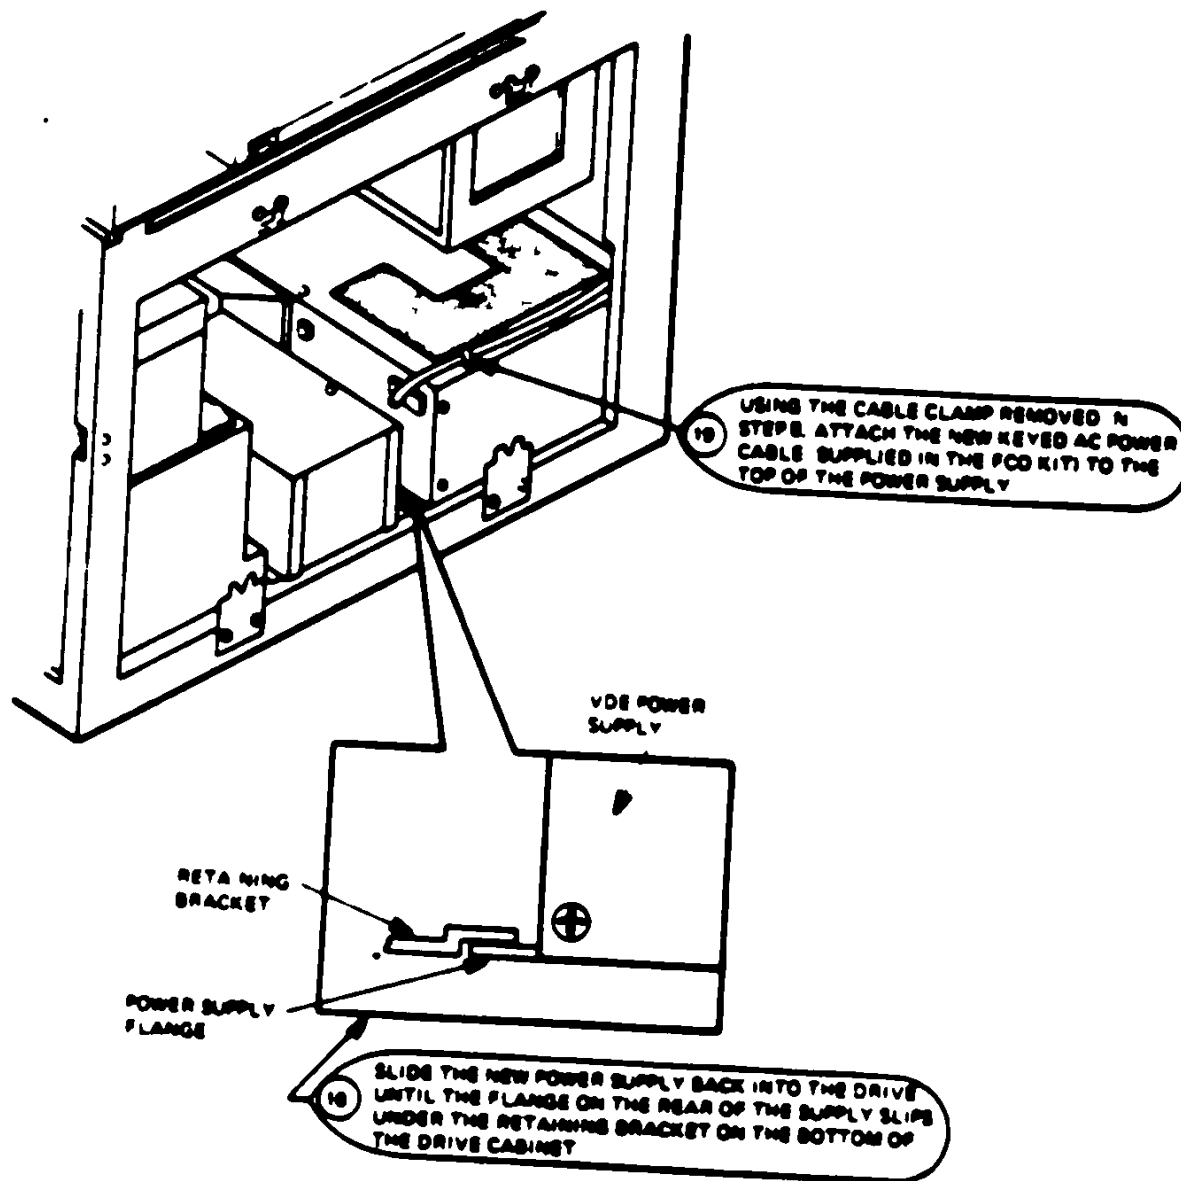

FIGURE 8 RM05 WITH VDE POWER SUPPLY
17. Re-install the two (2) 10-24 mounting screws and secure the control panel end of the power supply to the drive cabinet.
19. Using the cable clamp removed in step 8, attach the NEW keyed AC power cable (supplied in the FCO kit) to the top of the power supply. (See Figure 8)